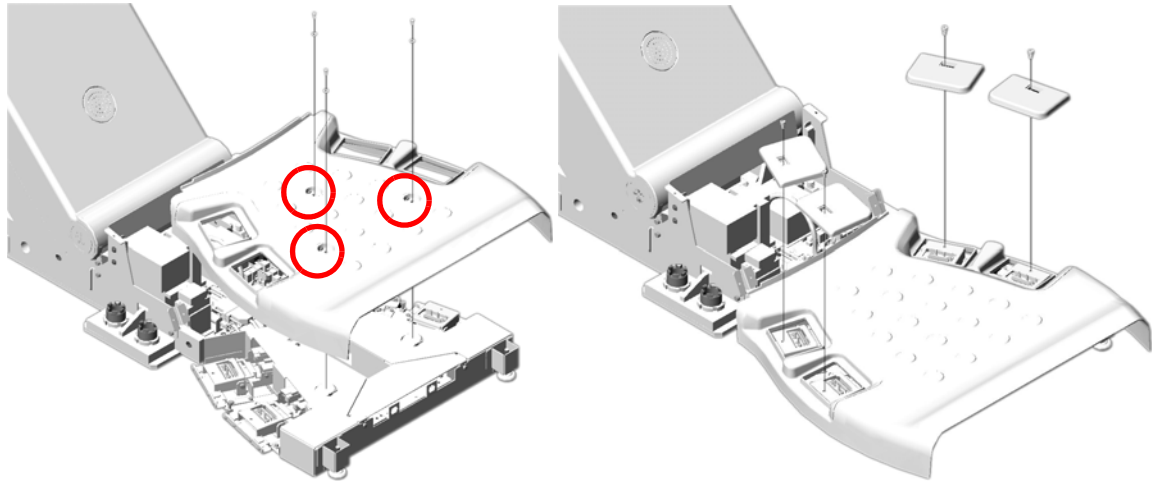

Figure 4-9 Footswitch Cove Installation
- 1.) Install the footswitch cover using three (3) screws (see Figure 4-9).